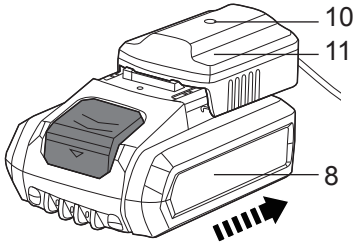

Fig. 6
- > Slide the battery pack (8) into the charger base (11) until it locks in place (Fig. 6).
- > Connect the charger (12) to the power supply. The indicator light (10) lights in red when battery is charging and green when charging is finished.